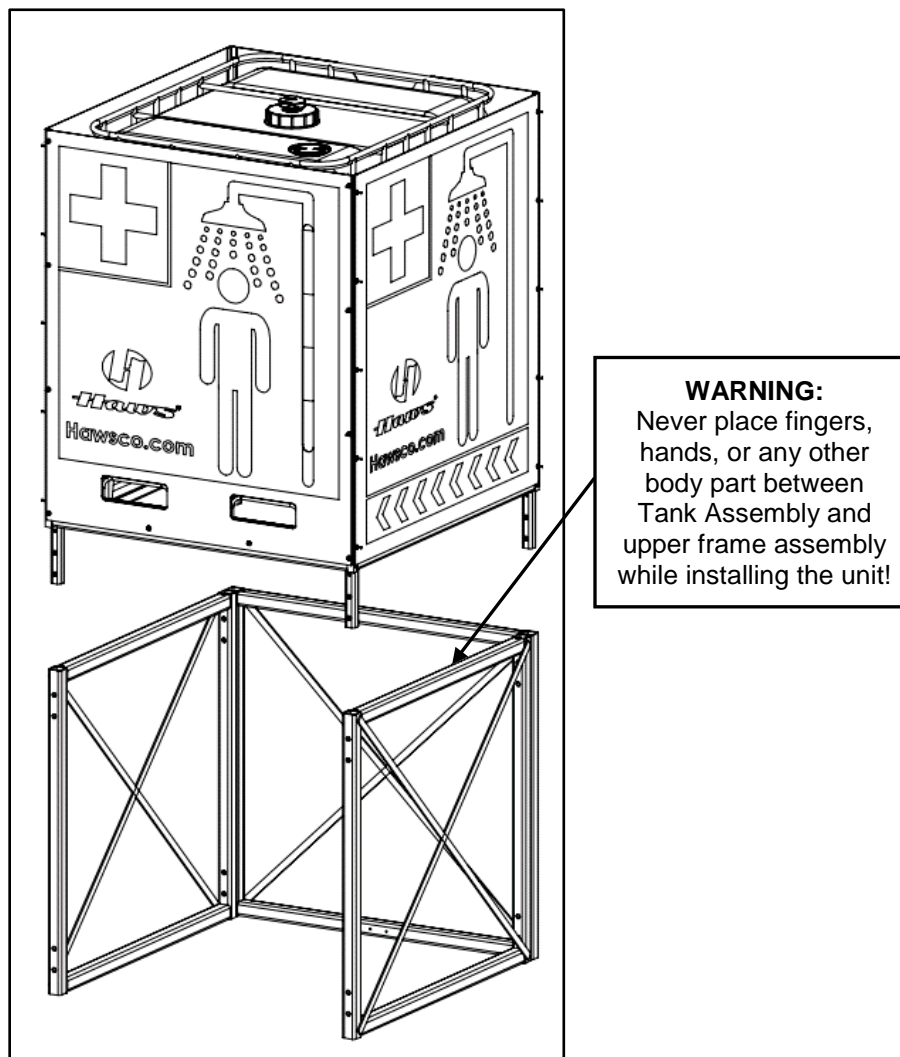

Figure 13. Setting Tank Assembly on Upper Frame
19. Use a suitable forklift to lift the Tank Assembly (Item #1) over the upper frame assembly as shown in Figure 13. Carefully align and insert the tank frame legs into the upper frame assembly while carefully lowering the tank.